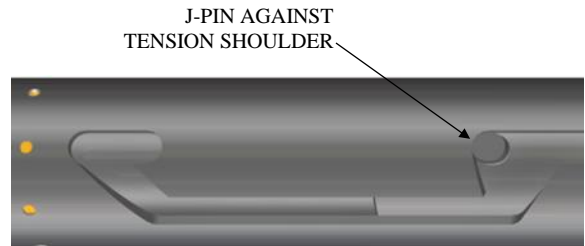

Fig. 8
- K-1.17) Position J-pin of J-pin bottom sub (23) against tension shoulder in J-slot of J-body (20) (Fig. 8).
- K-1.18) Align threaded holes in J-body (20) with pocket holes in rubber mandrel cap (19). For added leverage, wrench on rubber retainer (15) as needed to properly align threaded holes.
- K-1.19) Screw shear screws (3) into J-body (20). Tighten until shear screws (3) make contact with rubber mandrel cap (19). Back shear screws (3) out 1/4 turn.
- K-1.20) Screw bottom nipple (27) into J-pin bottom sub (23).
- K-2) Unclamp spring cage (5) from vise and remove assembled tool.